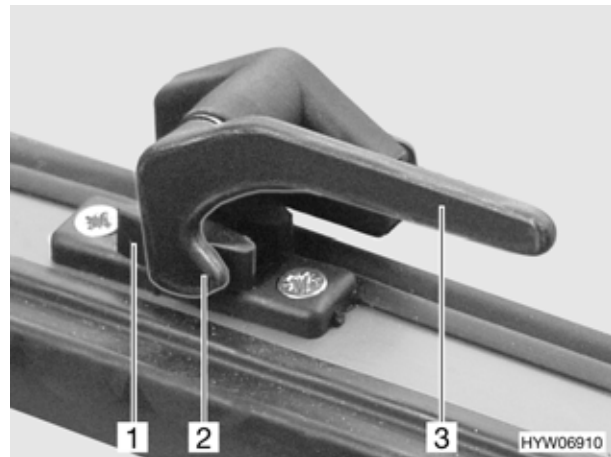

Fig. 38 Hinged window, window handle closed (variant 1)
- Place window handle (Fig. 38,3) into a vertical position.
- Place the window handle (Fig. 38,3) into a horizontal position. The locking catch (Fig. 38,2) is located on the inside of the window catch (Fig. 38,1).